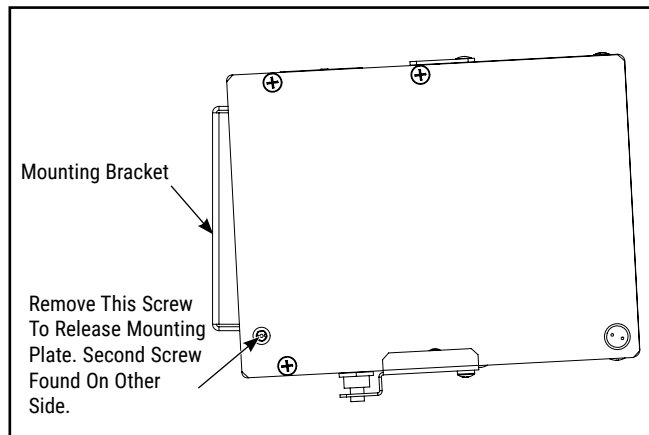
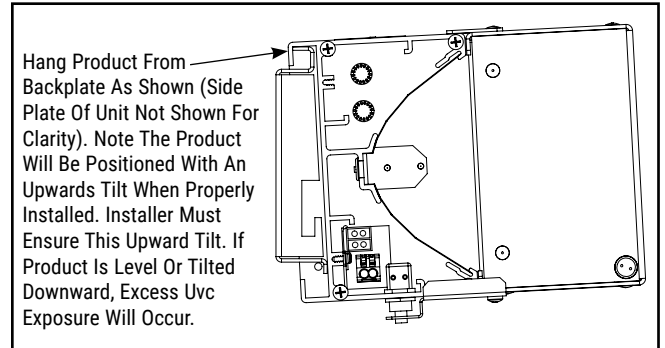

Figure 1.
Figure 3.
1. Remove the two locking screws from the sides of the fixture, one per side. A driver bit is included with the product. See figure 1.
3. Make AC wiring connections at this time. Connect white wire to common, green wire to ground and black wire to 120 or 277 volt service. Push wire nuts and excess wiring back into junction box. Reposition unit to hang from backplate as shown in Figure 3. Replace side plate securing screws previously removed. See Figure 1. These screws lock the housing to the backplate.